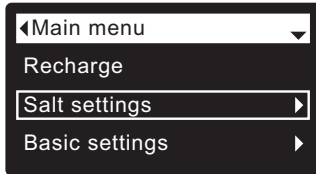

FIG. 39
1. From any of the rolling status screens, press the SELECT (O) button to display the **Main menu**.
2. Press the DOWN (▼) button to scroll through the menu options until **Salt settings** is highlighted (See Figure 39).